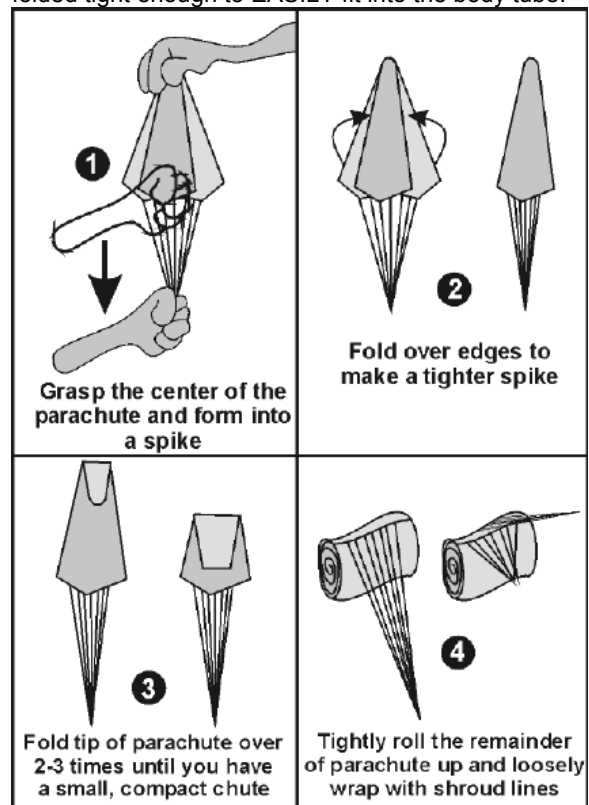

Figure 31
31. **Figure 31** shows you how to fold your parachute before putting it into your rocket. Be sure that the parachute is folded tight enough to **EASILY** fit into the body tube.